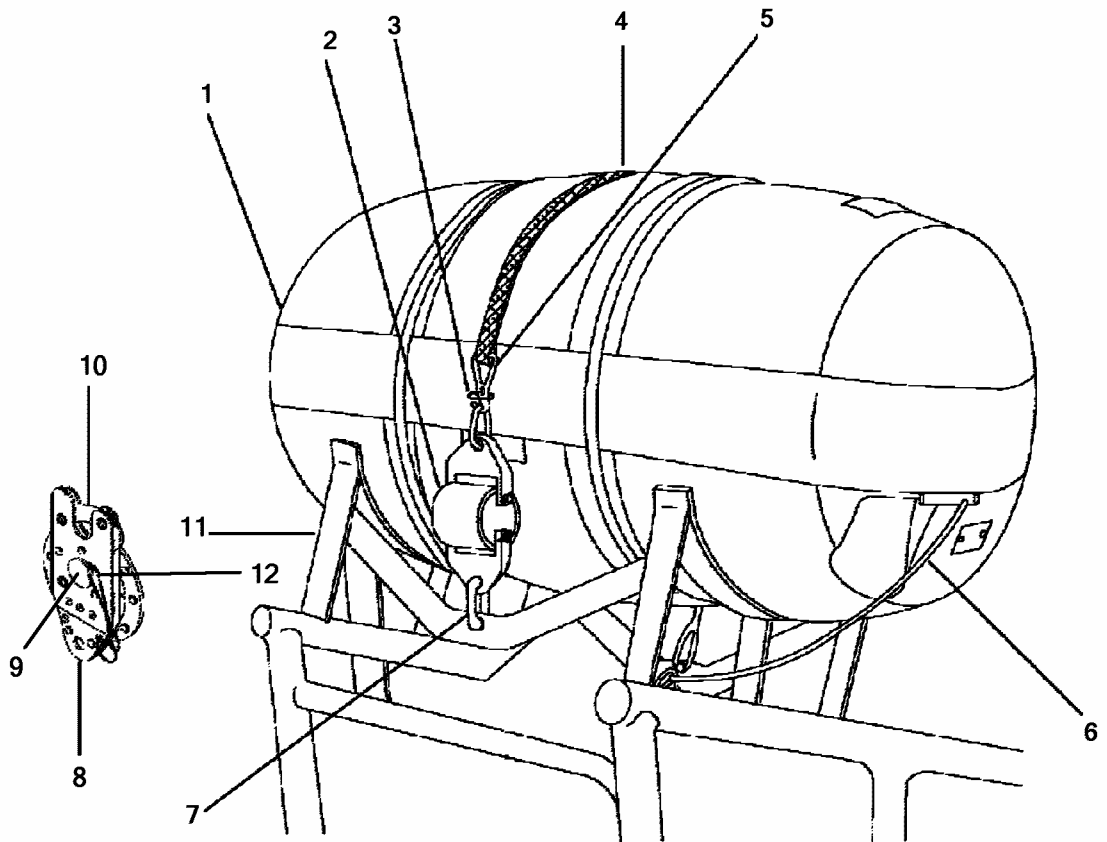

Figure 2-187. Liferaft Removal.
**2-217. Replace Inflatable Liferaft. (FIGURE 2-187)**